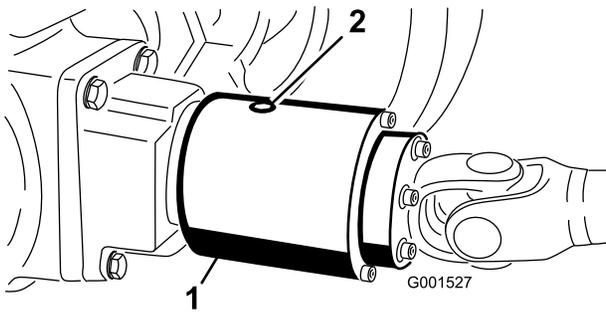

Figure 56
3. Rotate the clutch so that the check plug is positioned downward (Figure 56).